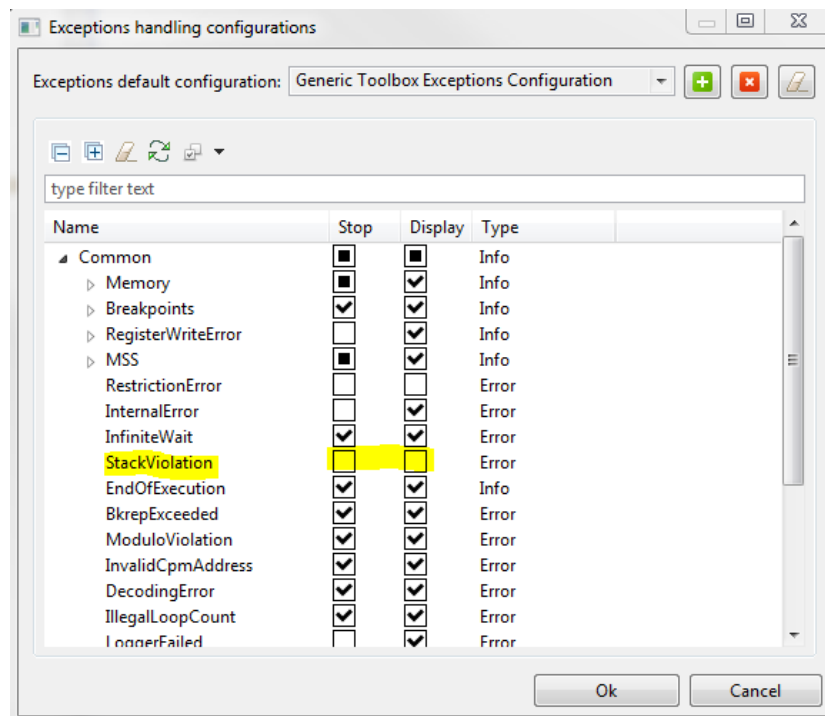

Figure 2-1: Disabling Exceptions on Stack Violations
2. In the IDE, select **Run > Exceptions**, and then disable exceptions on stack violations (Figure 2-1).